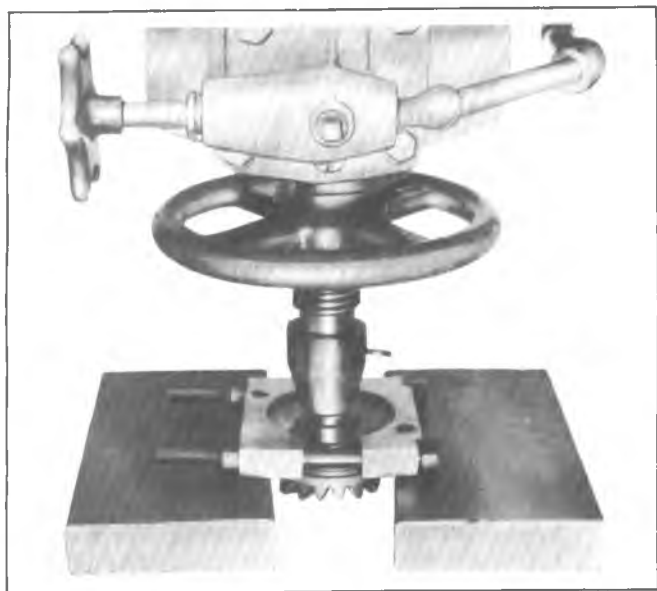

Fig. 4B-6H--Bearing Remover J-22912
4. Install a 1-1/2" to 1-3/4" diameter plug similar to (J-8107-4) on gear hub. Press against plug with ram of press to remove thrust ring. Keep all components in the proper order, Figure 4B-6H.
Replace cam plate and wave spring or clutch discs as necessary and reassemble as follows: See Fig. 4B-1H.